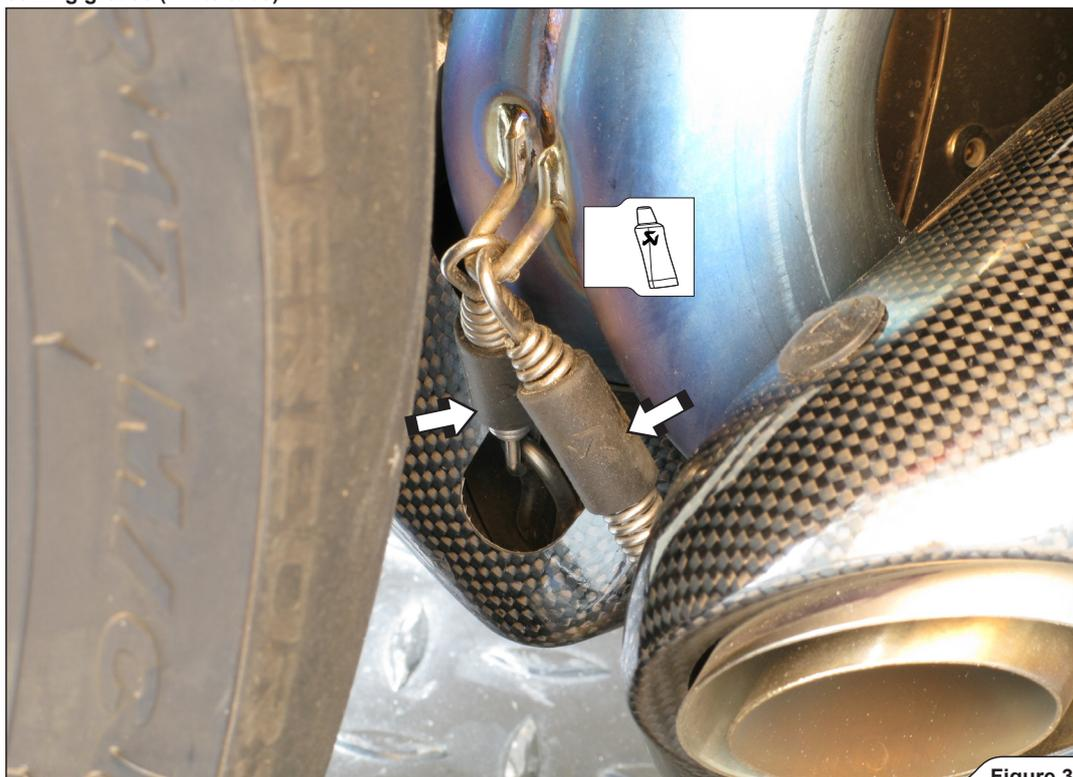

Figure 38
12. Slide the mufflers onto the outlets of the collector, hand tighten the mufflers' bracket bolts and attach the springs (Figure 38, 39).